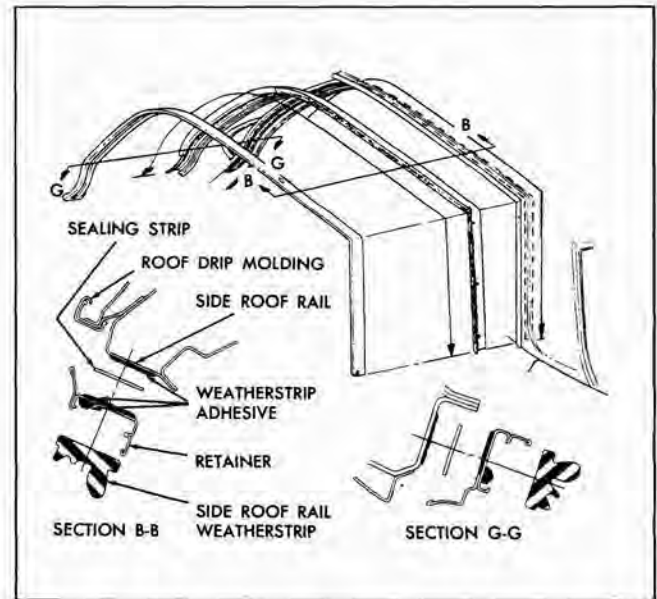

Fig. 3-45 Side Roof Rail Weatherstrip
2. Apply a continuous bead (approximately 3/16" diameter) of weatherstrip adhesive along entire outboard surface of side roof rail weatherstrip retainer (section "B-B" in Fig. 3-45).